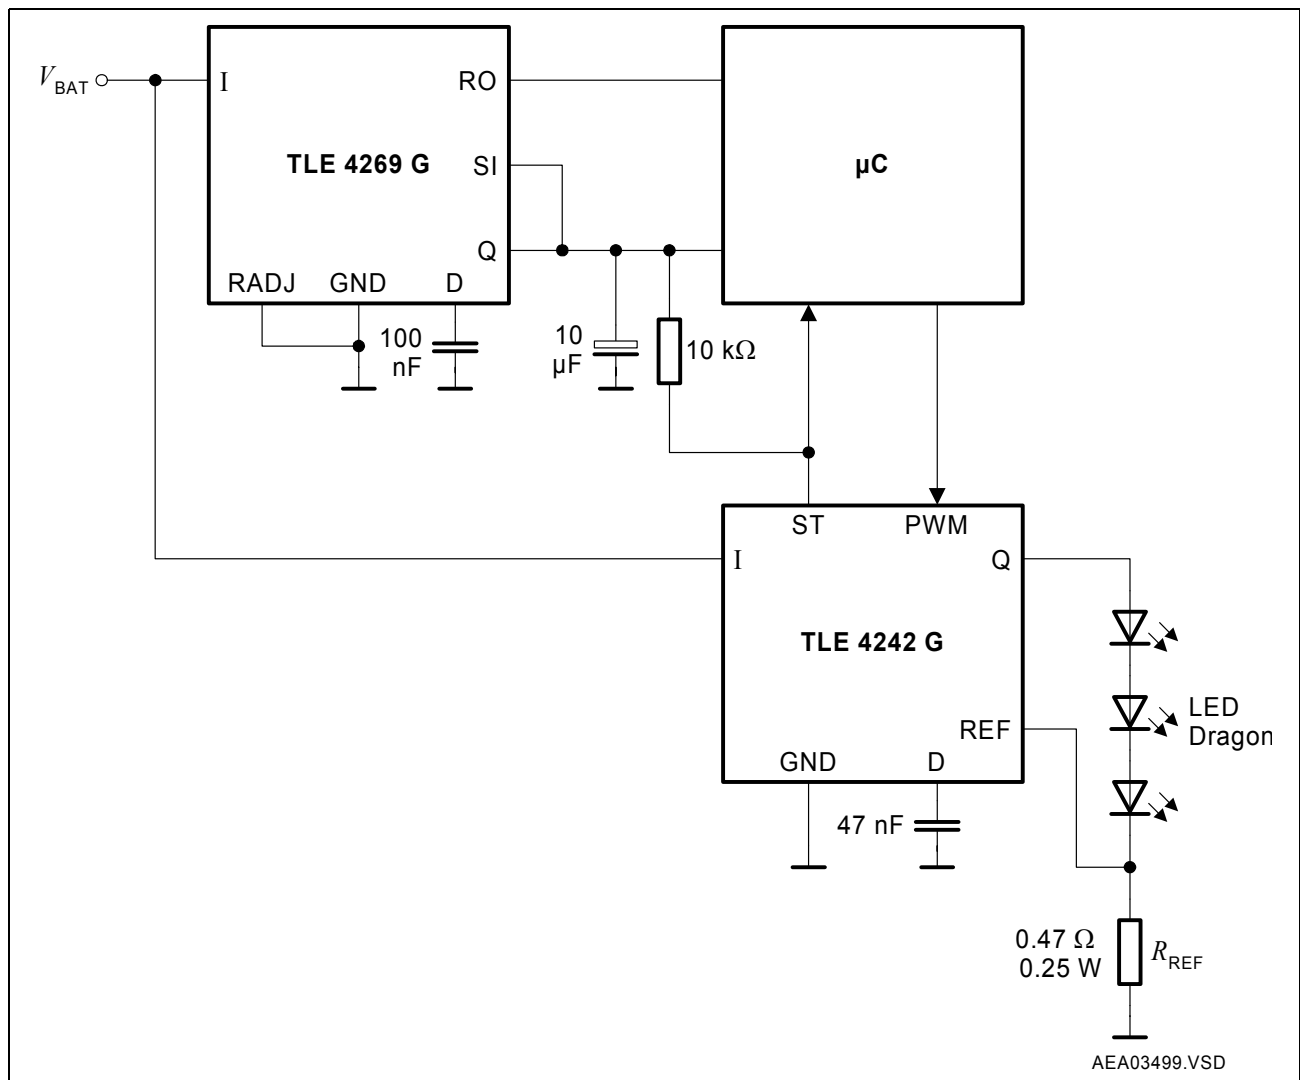

Figure 3 Application Circuit
Figure 3 shows a typical application with the TLE 4242 G LED driver. The 3 LEDs are driven with an adequate supply current adjusted by the resistor R_{REF} . Thus brightness variations due to forward voltage spread of the LEDs are prevented. The luminosity spread arising from the LED production process can be compensated via software by an appropriate duty cycle applied to the PWM pin. Hence selection of the LEDs to forward voltage as well as to luminosity classes can be spared. The minimum supply voltage calculates as the sum of the LED forward voltages, the TLE 4242 G drop voltage (max. 0.7 V at a LED current of 300 mA) and the max. voltage drop at the shunt resistor R_{REF} of max. 185 mV.
1) $V_Q - V_{REF}$ equals the forward voltage sum of the connected LEDs, see Figure 3.